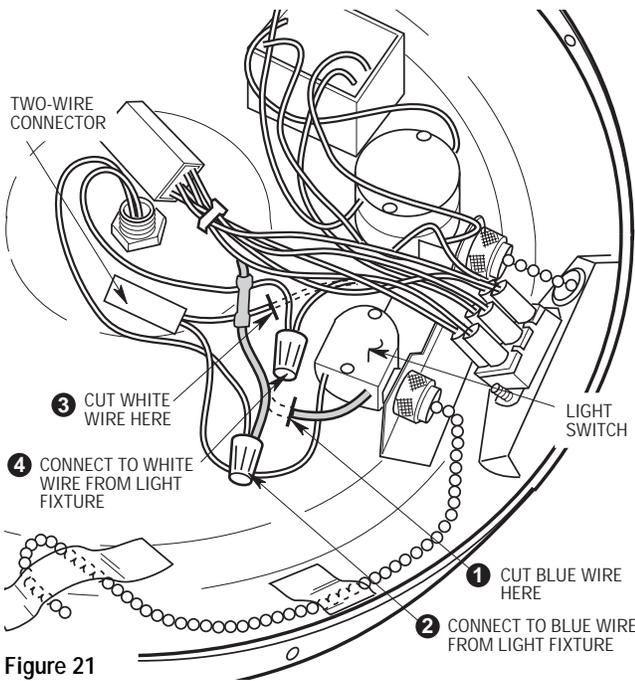

Figure 21
- 9. Carefully cut the blue wire going to the light switch. Strip off 1/2-inch of insulation and connect this blue wire to the blue wire from the light fixture (Figure 21) using a wire connector (supplied).
- 10. Carefully cut the white wire going to the two-wire connector. Strip off 1/2-inch of insulation and connect this white wire to the white wire from the light fixture (Figure 21) using a wire connector (supplied).